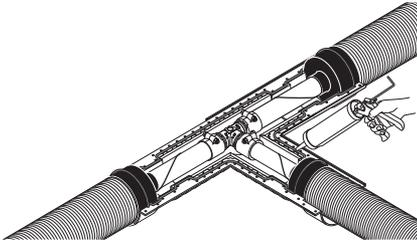

Figure 3-14: Apply sealant
6. Apply sealant compound as shown in **Figure 3-14**.